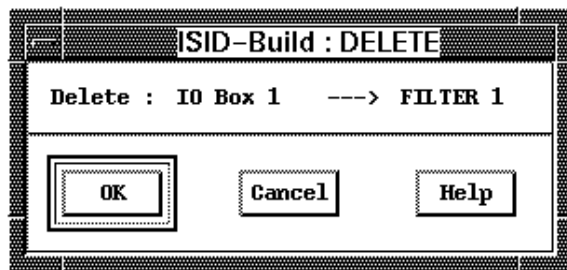

Figure 3.12 The “DELETE” window enables you to delete existing connections.
- Deleting a connection is very similar to making a new one. Say you want to delete the connection between algorithm A and B. First select algorithm A, then select algorithm B. This will pop up the “DELETE” window (Figure 3.12).